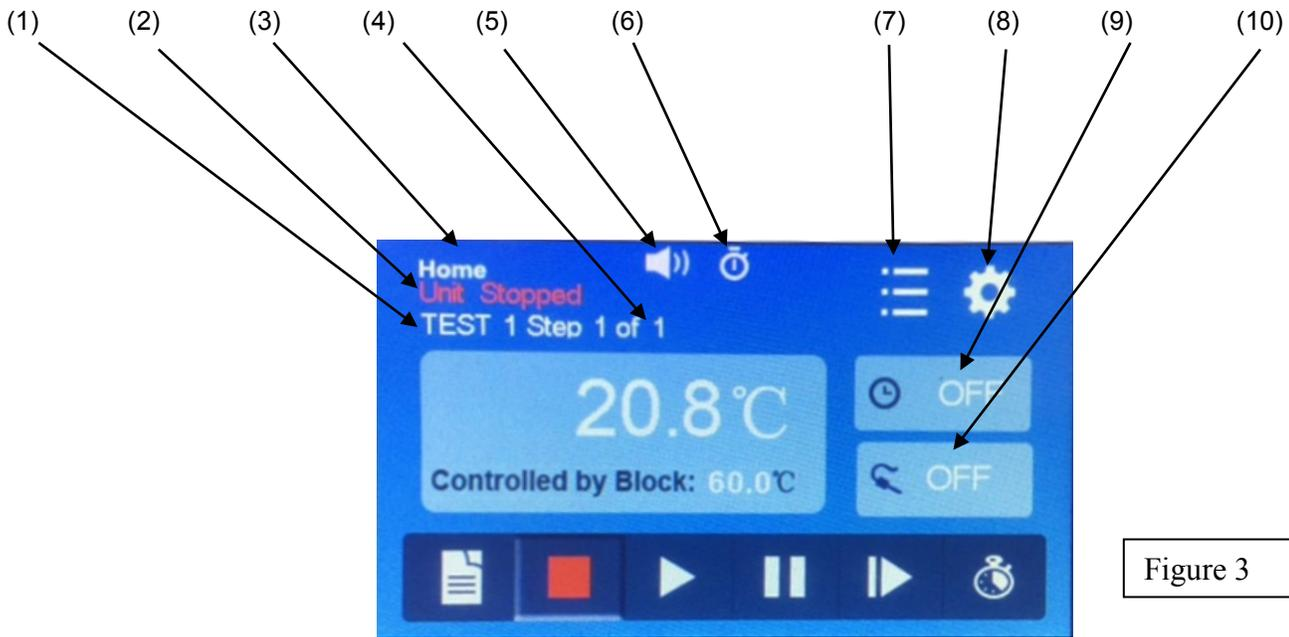

Figure 3
**4.3 Home Screen (Figure 3) – The home screen displays all operating parameters and allows for access to menus to configure the unit**